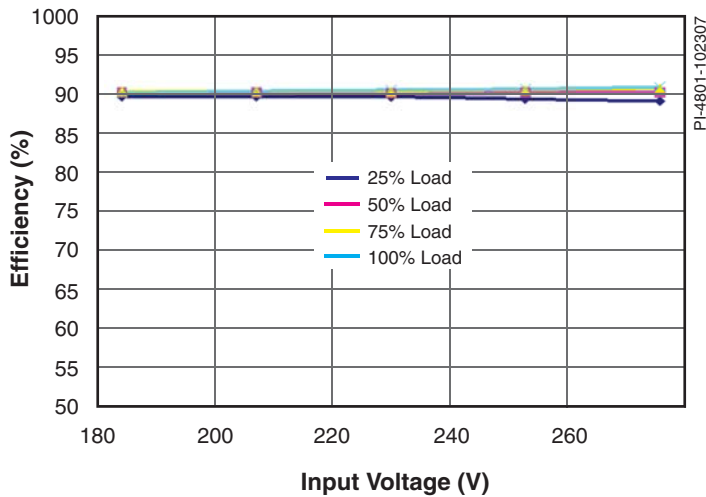

Figure 2. Efficiency Versus Load, at Standard Line Voltages
- High efficiency under all load conditions (see Figure 2)